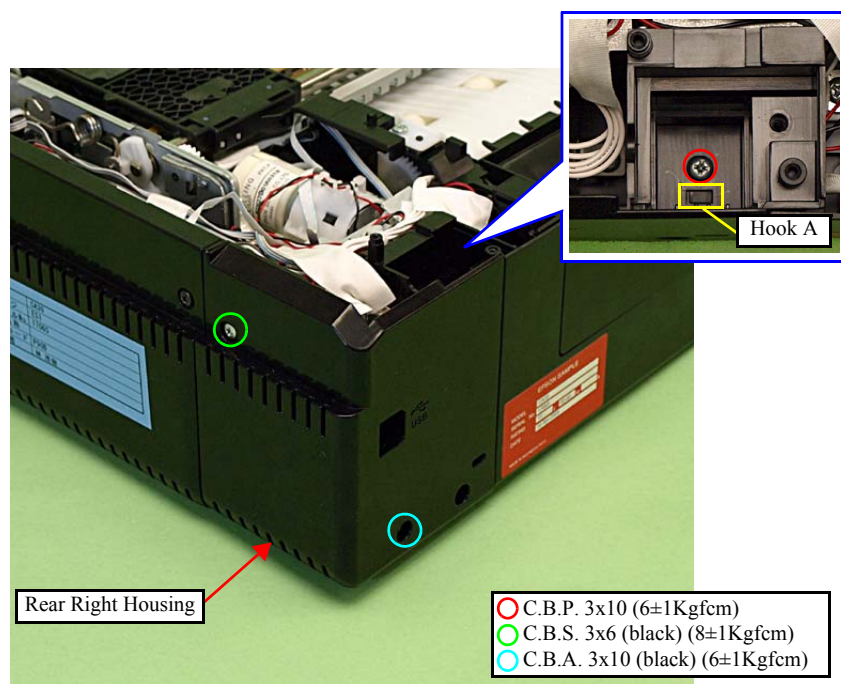

Figure 4-220. Removing the Rear Right Housing (1)
2. Release the ribs (x2) on the right side, and also release the point A, then remove the Rear Right Housing by lifting it in the direction of the arrow. (See Fig. 4-220.)